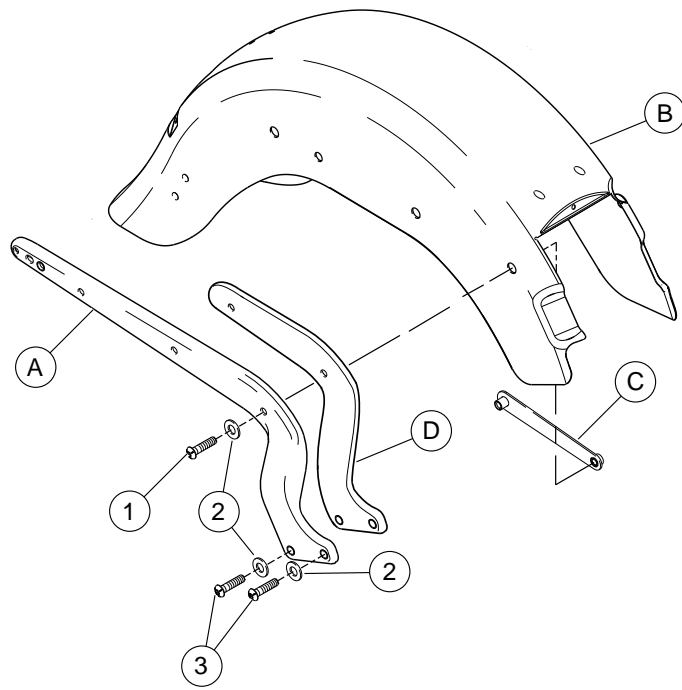

Figure 1. Service Parts: Chrome Rear Fender Support Hardware Kit
See Figure 1 and Table 1.
2. See Figure 1. Apply Loctite 243 (blue) (Harley-Davidson Part Number 99642-97) to the threads of the 1-1/4 inch screw (1). Insert the screw through the counterbore side of the chrome washer (2), the hole in the fender support cover, fender support and into the hole in the motorcycle frame. Tighten the screw to 21-27 ft-lbs (28.5-36.6 Nm).
3. Apply Loctite 243 (blue) (Harley-Davidson Part Number 99642-97) to the threads of the 1-1/2 inch screw (3). Insert the screw through the counterbore side of the chrome washer (2), the hole in the fender support cover, fender support and into the hole in the motorcycle frame. Tighten the screw to 30-35 ft-lbs (41-47 Nm). Loosen the screw and retighten to 38-42 ft-lbs (52-57 Nm). Repeat for the other screw (3).